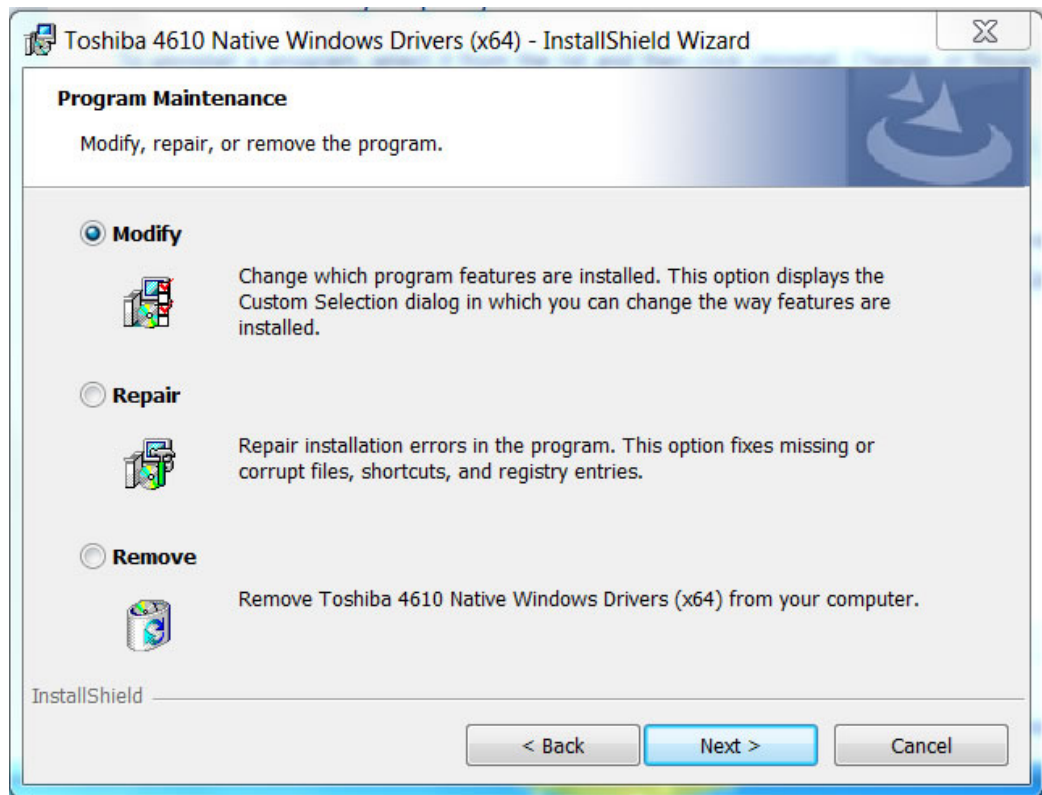

Figure 6. Program Maintenance window
2. Click **Next**. The Program Maintenance window opens (see Figure 6). Select the **Remove** button and click **Next**.